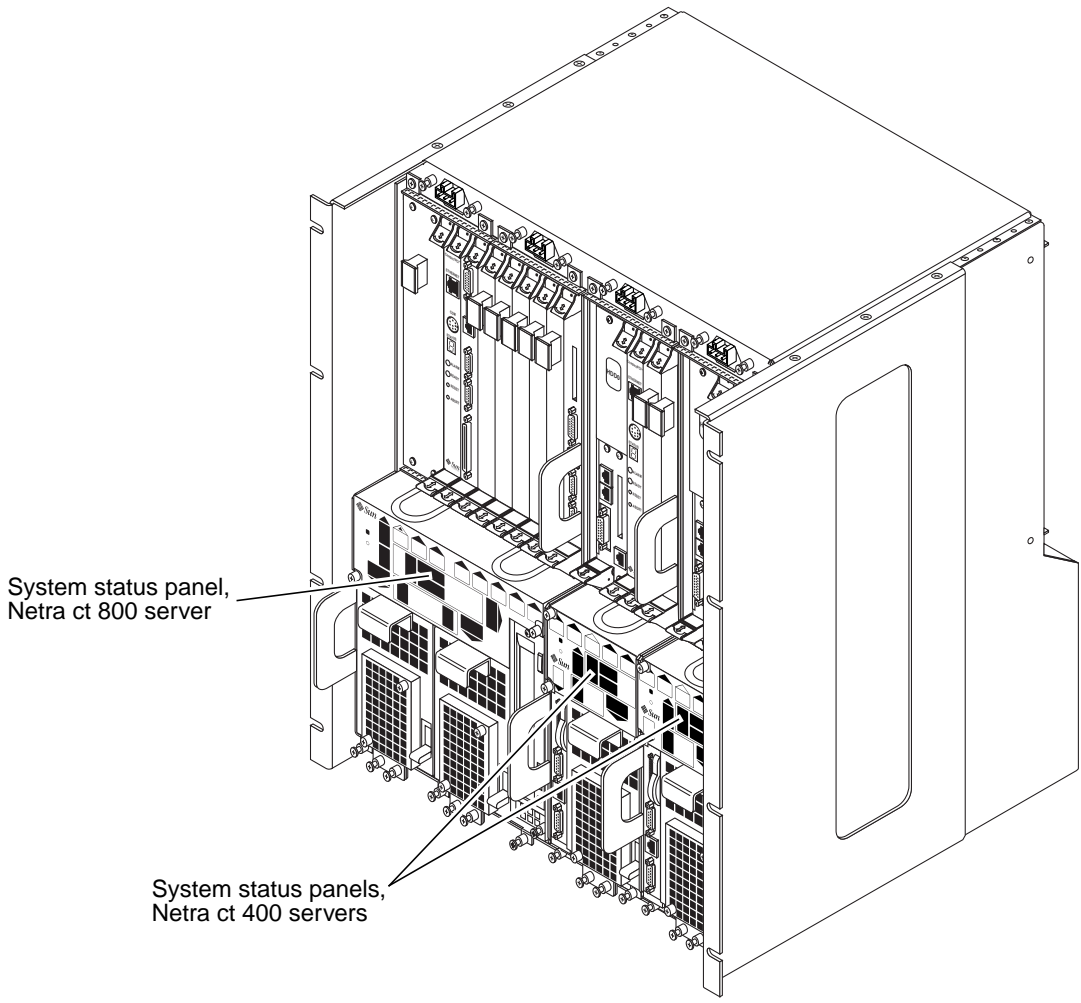

FIGURE 7-3 System Status Panel Locations
The location of the system status panel in the Netra ct 800 server and Netra ct 400 server is illustrated in FIGURE 7-3.
The location of the system status panels in the Netra ct 800 server and Netra ct 400 server is illustrated in FIGURE 7-3.
5. Go to the front of the Netra ct server and locate the system status panel (see FIGURE 7-3 on page 124).